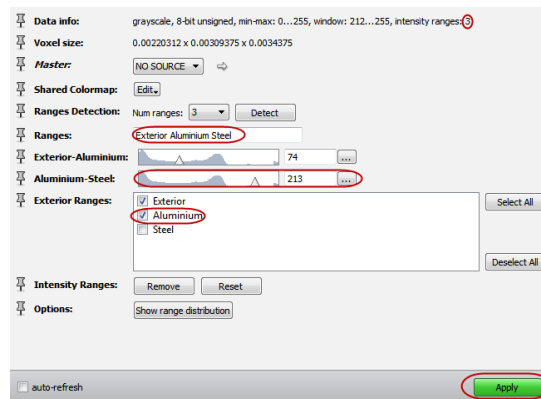

Figure 3.36: Modifying Intensity Range Partitioning
- Press the *Apply* button at the bottom of the Properties panel. *data info* and editor should be updated as shown in Figure 3.36.